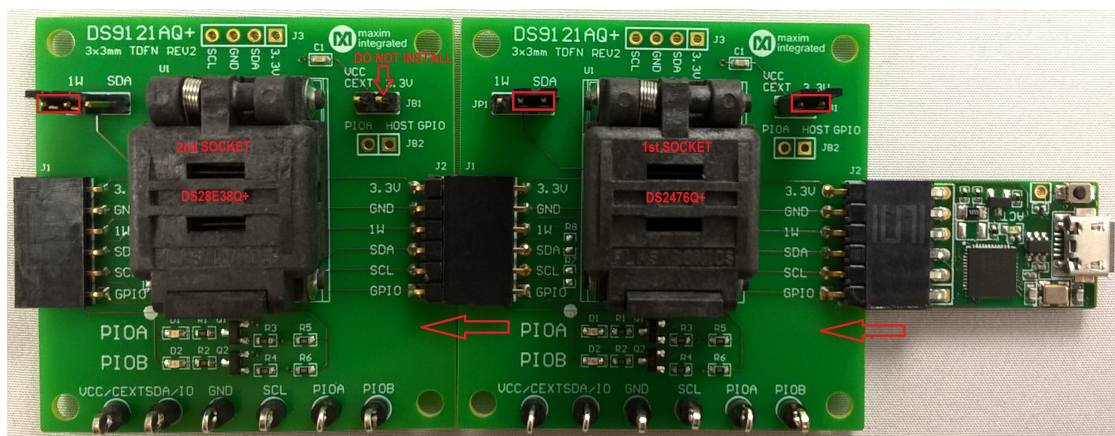

Figure 10. DS9481QA-300# and DS9121AQ
- d) Connect the 1st DS9121AQ J2, 6-pin female socket, into the DS9481P-300#, 6-pin male plug per Figure 10.
- e) Connect the 2nd DS9121AQ J2, 6-pin female socket, into the 1st DS9121AQ J1, 6-pin male plug per Figure 10.
- f) For the 1st DS9121AQ+ socket boards that contains DS2476, configure jumpers JP1 to use SDA and JB1 to use 3.3V per Figure 10.
- g) For the 2nd DS9121AQ+ socket boards that contains DS28E38, configure jumpers JP1 to use 1W and JB1 do not install per Figure 10.